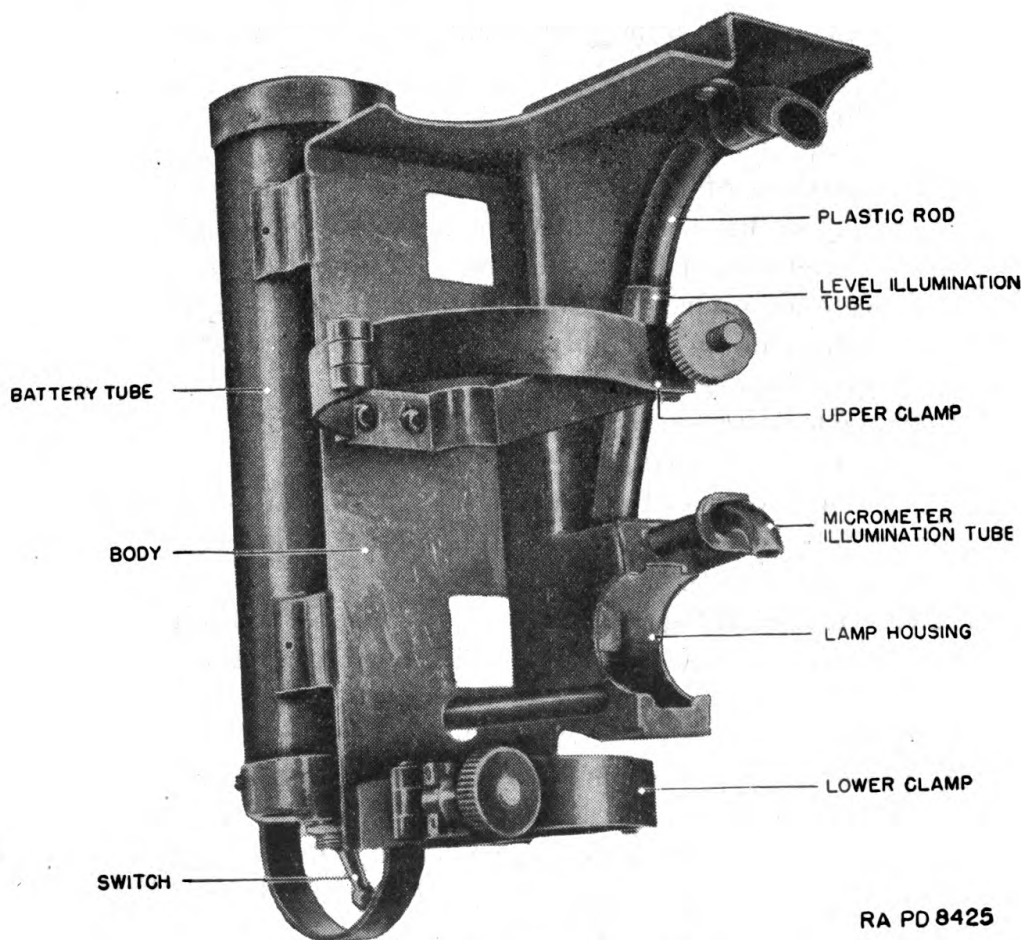

FIGURE 10.—Instrument light M5.
6. Light, instrument, M5.—This light (fig. 10) consists essentially of the body assembly and battery tube.